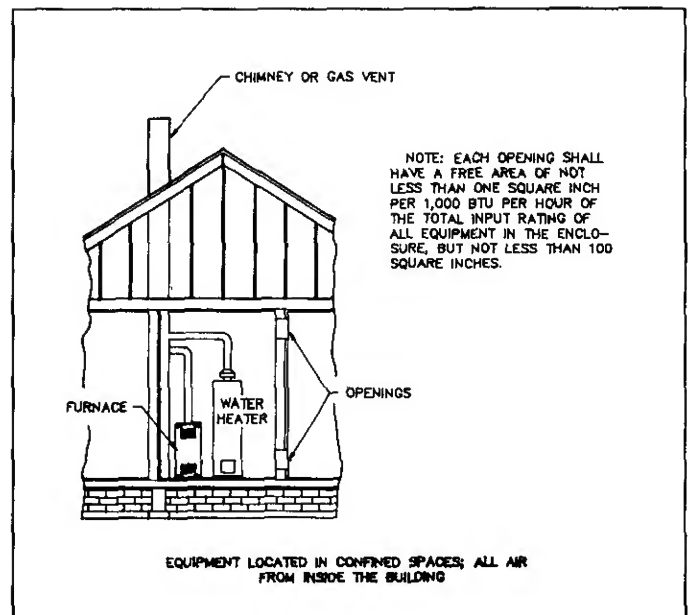

FIGURE 12
The total input of all gas appliances within the combined space must be considered in making this determination. See Figure 12.
2. a. Each opening must have minimum free area of one square inch per 1,000 Btu per hour of the total combined input rating of all gas appliances within the confined furnace space, but not less than 100 square inches. One opening must be within 12 inches of the top and another opening within 12 inches of the bottom of the furnace space. See Figure 12.